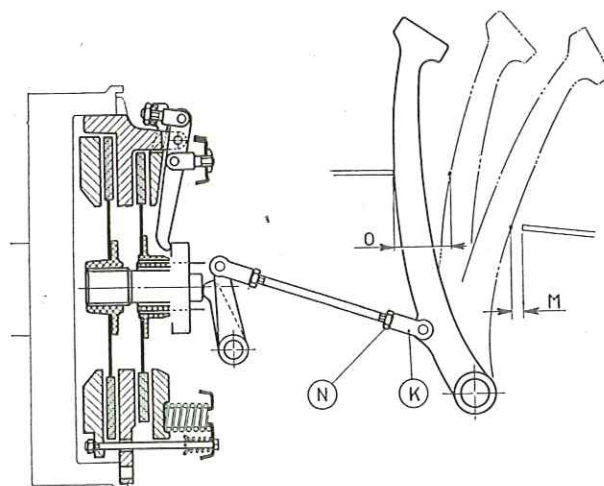

Fig. 40. - Distances O and M of pedal from foot-board and battery support, to be considered for clutch adjusting.
During operation the wear on the clutch disc linings causes the release levers (L) to reduce progressively their distance from the throwout collar contacting surface and consequently the length of the clutch pedal free travel is also reduced. The pedal free travel must therefore be periodically checked in order to bring it back if necessary to its proper setting of  $7/16''$  to  $9/16''$  (1 to 1,5 cm) (horizontal distance measured from the foot-board, fig. 40) by adjusting the pedal tie-rod length.